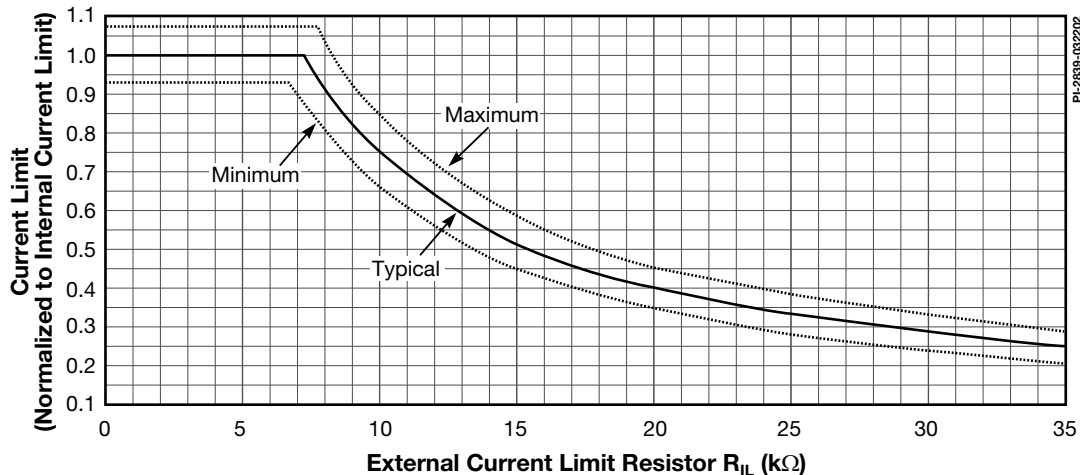

Figure 35. Current Limit vs. External Current Limit Resistance.
- B. For externally adjusted current limit values, please refer to Figure 35 (Current Limit vs. External Current Limit Resistance) in the Typical Performance Characteristics section.